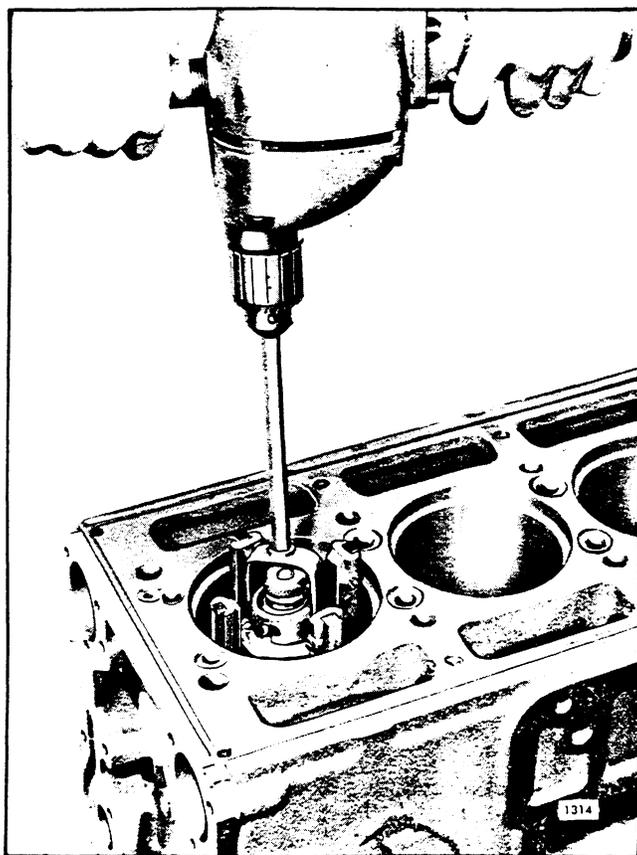

Fig. 10 - Honing Bore of Cylinder Block with Tool J 5902-01
- b. Insert the hone in the bore (Fig. 10) and adjust the stones snugly to the narrowest section. When correctly adjusted, the hone will not shake in the bore, but will drag freely up and down when the hone is not running.